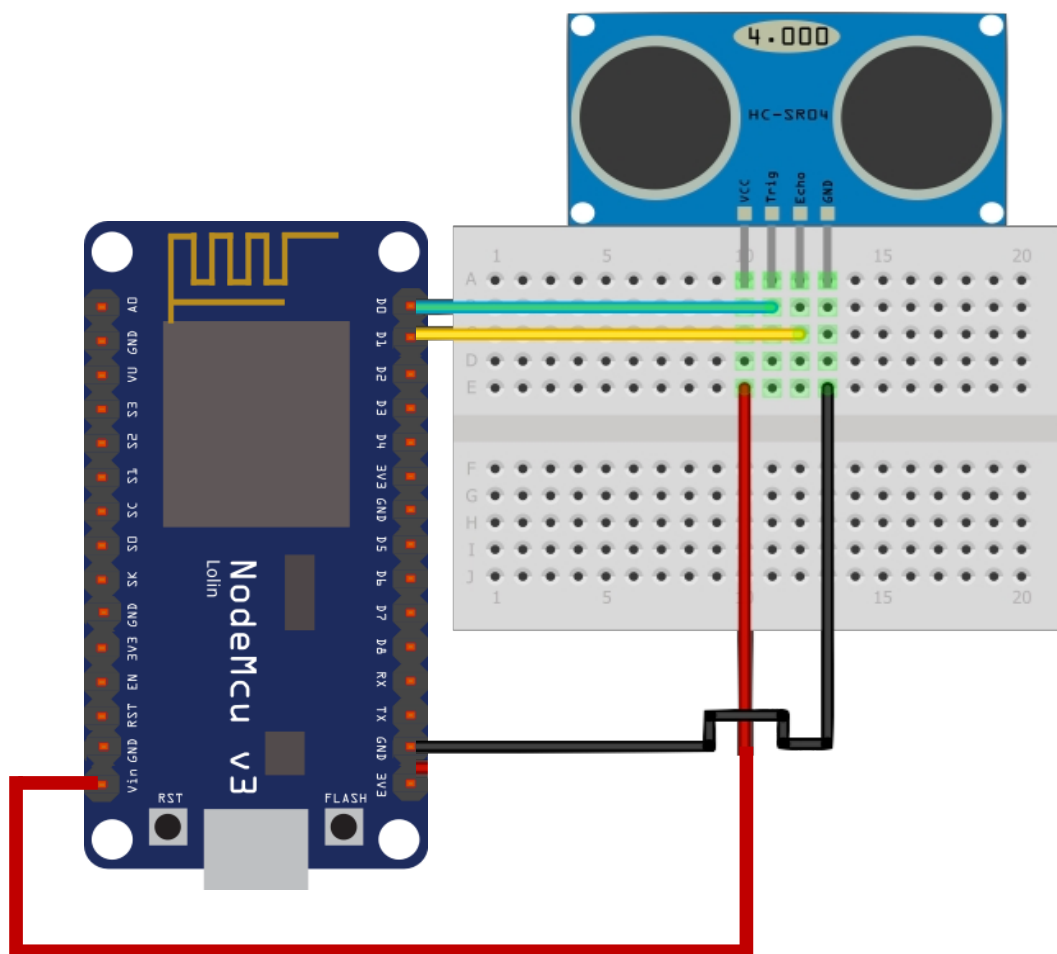

Figure 4. Connecting the PING sensor to the NodeMCU
- 1- Use the breadboard to connect the sensor to the NodeMCU according to the below circuit (Figure4)